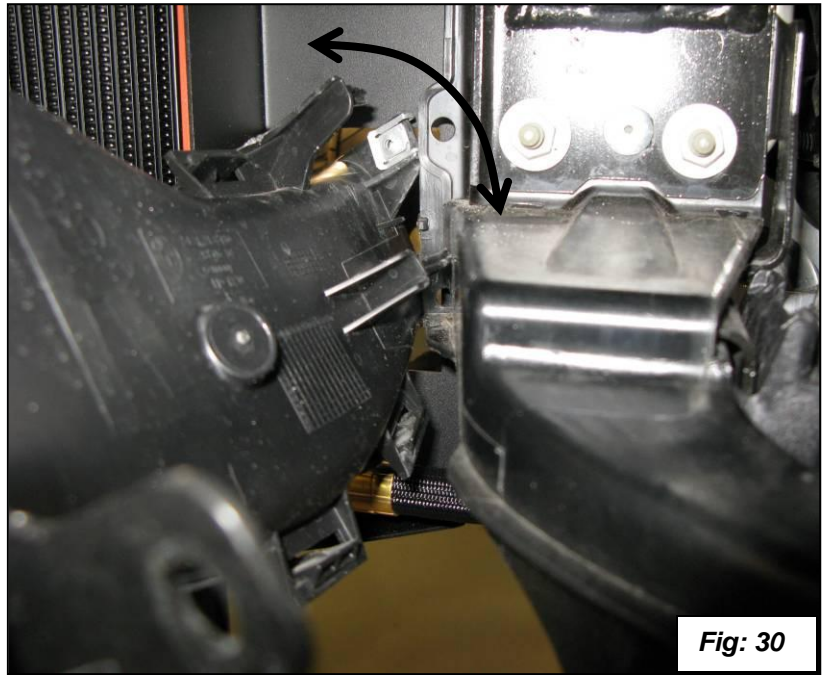

Fig: 30
32. Install the brake duct. You do not need to cut the brake duct. It will fit into the opening by going in at an angle as shown in figure 30 and twisting back and forth as you install it around the obstacles.